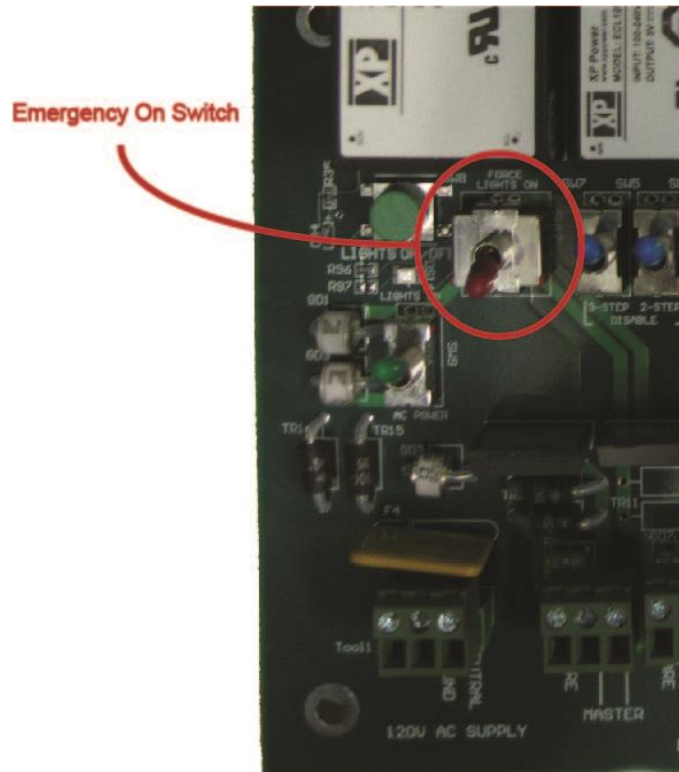

Figure 6: Location of Emergency On Switch
3. **Emergency Override.** The Emergency On switch will bypass the electronics of the Light Controller and command the lights to High Intensity. (See Figure 6.) This feature is intended to enable ground operators to force the lights to come on when there is a failure of the Light Controller to operate properly.